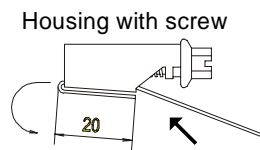

Figure 9: Strap housing
2. Insert the strap into the housing from the screw head side, and bend a projection of 20 mm over the ridge (Figure 9).